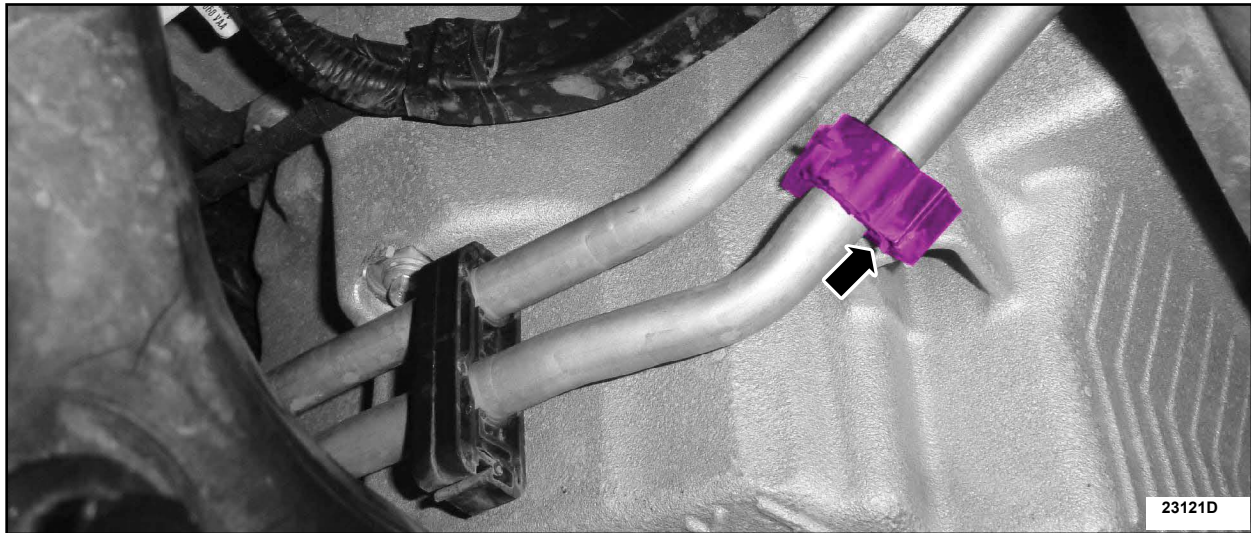

FIGURE 2
15. Detach the transmission cooler tube retainer. See Figure 2.